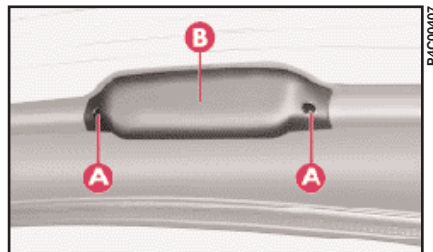

fig. 21
1) Unscrew the two screws **A** (fig. 21) and remove trim **B**.